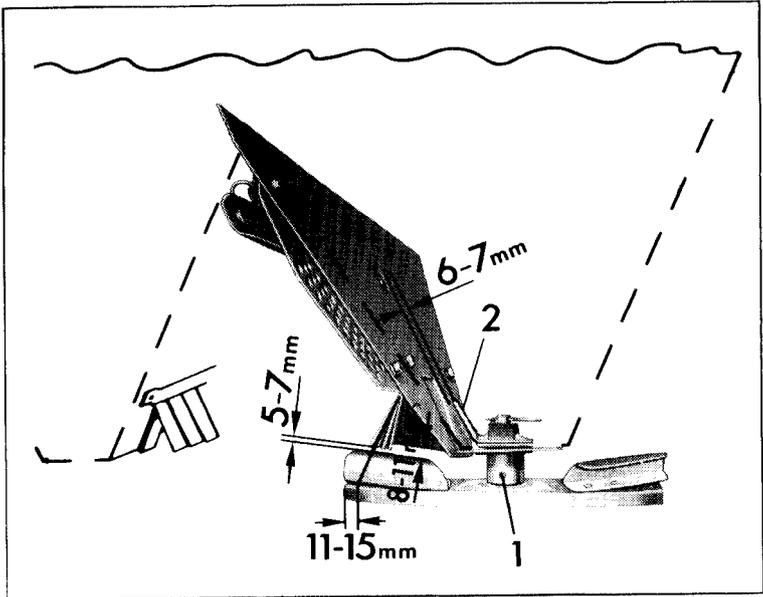
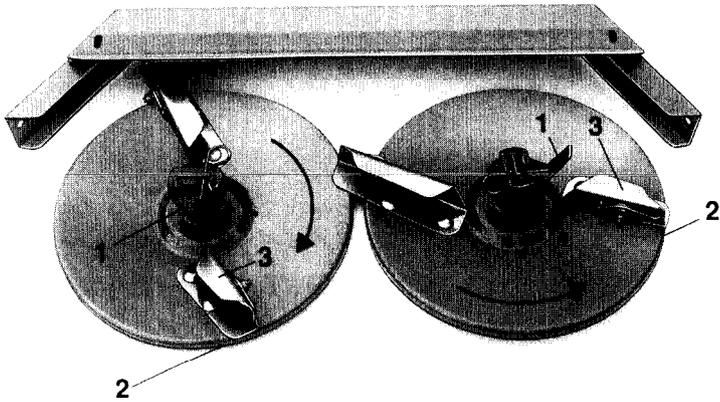

Fig. 18
Fig. 19
Extract the roll pins (Fig. 18/1) from below the hopper just above the spreading disc. Pull off the stirrer bases and mark these left and right for replacement purposes later. If no extractor is available, make a groove with a hammer and chisel on both sides of the stirrer base near the pin holes, thus widening the stirrer base bushes. Then insert a chisel or screw-driver between the stirrer base and disc, and lever up. Under no circumstances heat or use any kind of open flame to remove the stirrer base, as this could result in the warping of the spinner discs. When replacing the stirrer heads, ensure that the hardened surface (Fig. 19/1) of the stirrer fingers point in the direction of travel (Fig. 19).
*The stirrer fingers must also point towards the holes (Fig. 19/2) in the rims of the spinner discs.* The stirrer finger (Fig. 18/2) must have a clearance of 6 - 7 mm (1/4" - 9/32"). The stirrer must not grind on the hopper base, although this gap should not exceed 0.5 mm at any point. The stirrer heads should be resecured with double roll pins.
Check the measurements of the blades and deflector plates, etc. (see Fig. 18).
When fitting the spinner vanes please note that the short vane (Fig. 19/3) is mounted above the hole (Fig. 19/2) in the rim of the spinner disc.